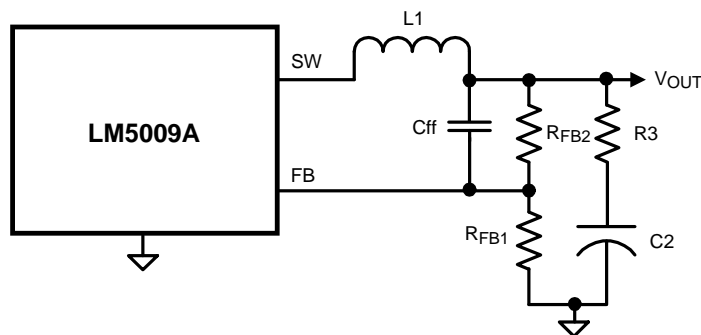

Figure 15. Reduced Ripple Configuration
**a) Reduced ripple configuration:** In Figure 15,  $C_{ff}$  is added across  $R_{FB2}$  to AC-couple the ripple at  $V_{OUT}$  directly to the FB pin. This allows the ripple at  $V_{OUT}$  to be reduced to a minimum of 25 mVp-p by reducing  $R_3$ , since the ripple at  $V_{OUT}$  is not attenuated by the feedback resistors. The minimum value for  $C_{ff}$  is determined from: